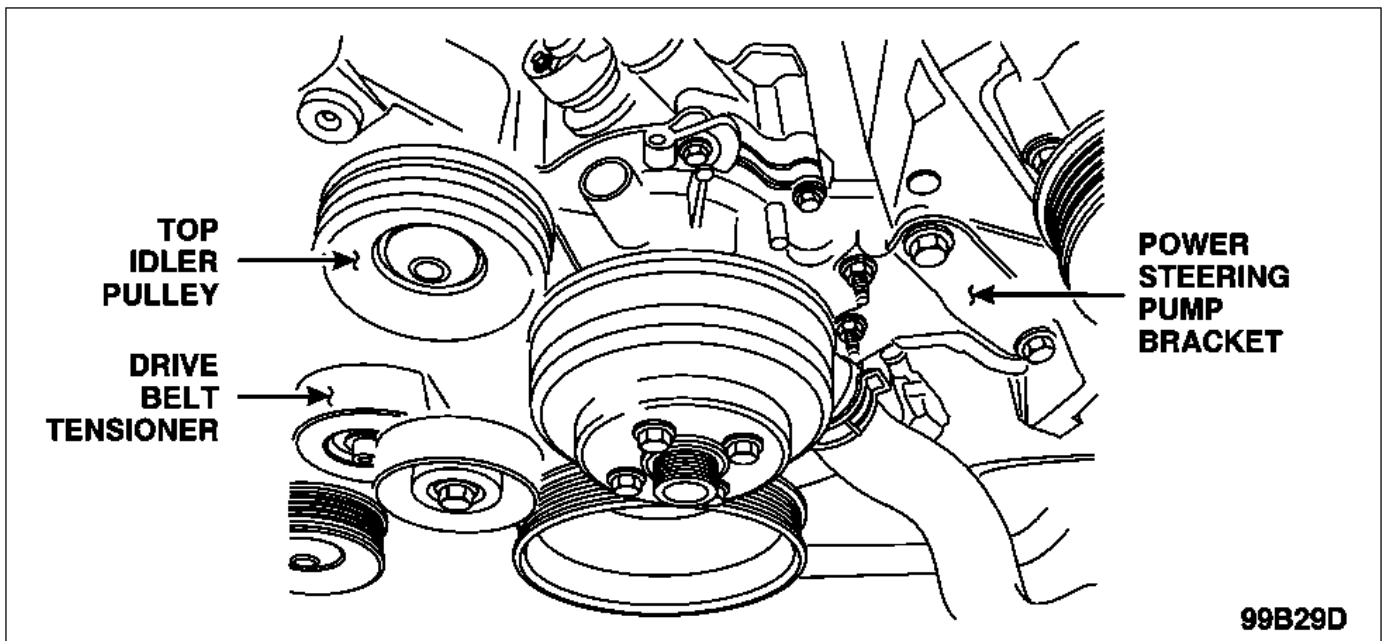

FIGURE 4
27. Remove the power steering pump bracket. See Figure 4.
28. Remove the top drive belt idler pulley. See Figure 4.
29. Remove the drive belt tensioner. See Figure 4.